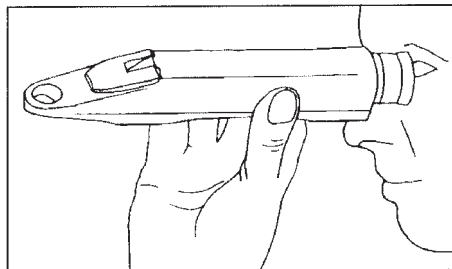

Figure 3 / Abb. 3
- Close the cover plate and hold the instrument to a light source to take a reading (Fig. 3).
- Deckplatte vorklappen, Instrument gegen Licht halten — ablesen (Abb. 3).